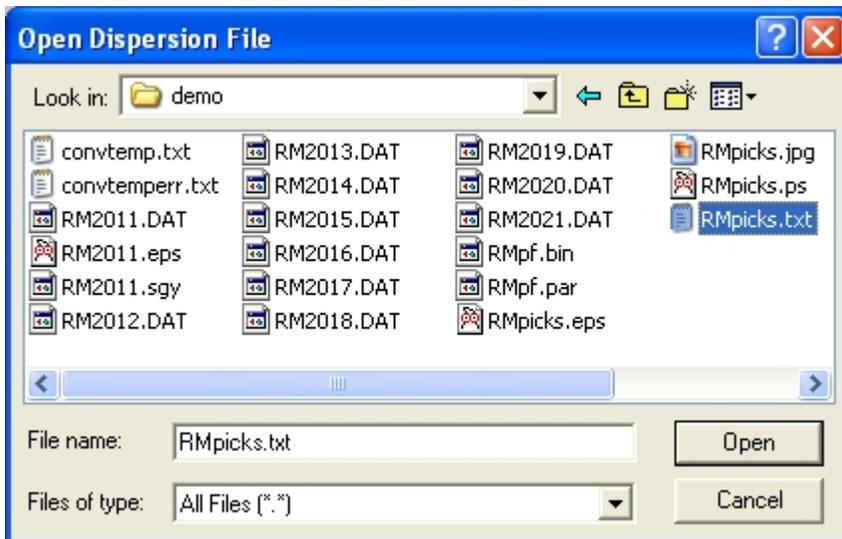

Figure 51: Select the pick file that was created during Step 6 of the Vspect processing sequence.
2. The dialog window shown in Figure 51 will open up. Choose the appropriate pick file that was save from the ReMi Vspect module (Section 3.6.2, Figure 44). For the “demo” data, this file is ‘RMpicks.txt’.